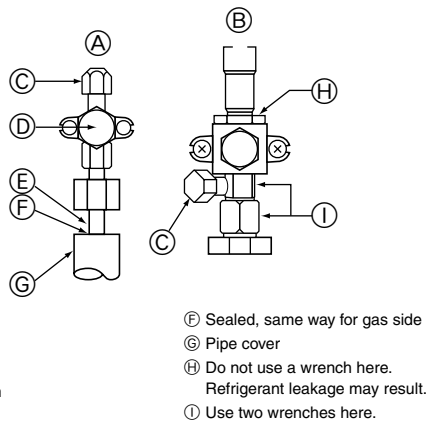

Fig. 4-5
- ⑤ Use sealant to seal the ends of the thermal insulation around the pipe connection sections to prevent water from entering the thermal insulation.
4.4. Refrigerant pipe airtight testing method (Fig. 4-5)